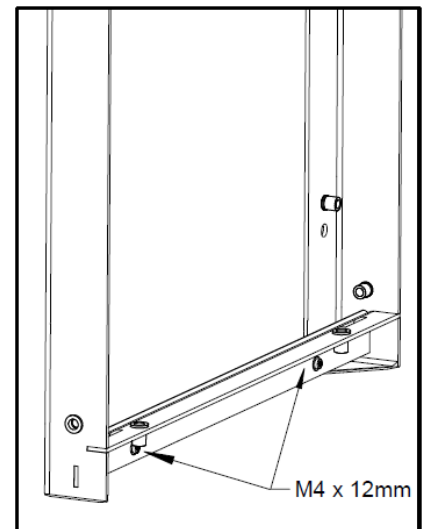

Figure 3
- Secure the Frame Vent to the shelf support using M4 x 12mm long screws (2 off) supplied as shown in Figure 3.